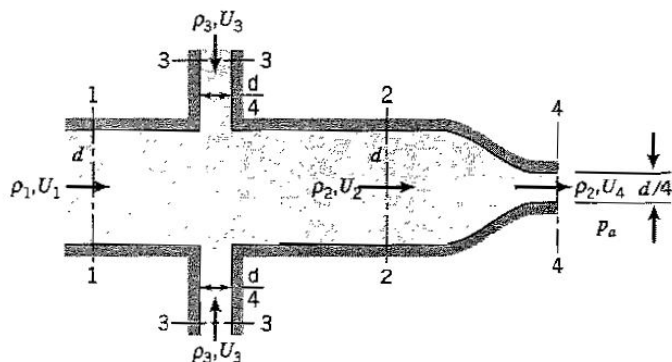

Figure P4.45
4.45 Two gases of density ρ_1 and ρ_3 are being mixed in the device shown in Figure P4.45. The device is of height d and constant width. Gas of density ρ_1 and velocity U_1 enters from the left, and it is mixed with gas of density ρ_3 and velocity U_3 entering through two ducts